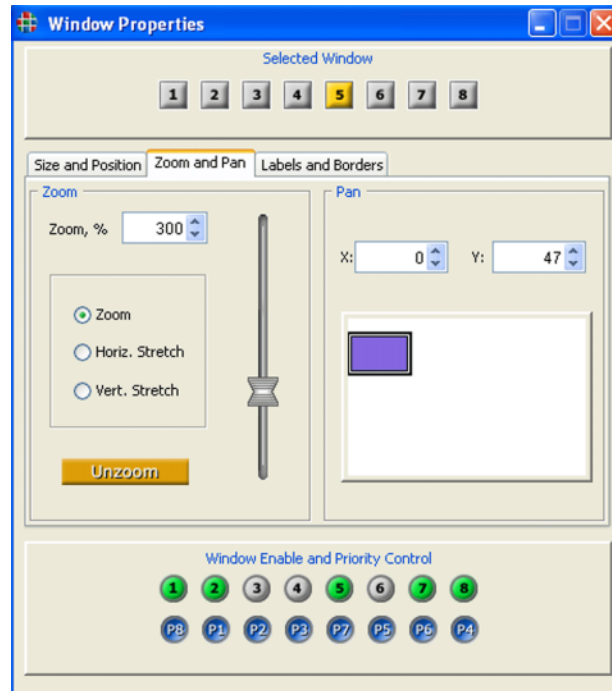

Figure 3-8. WCP Zoom and Pan page
- Click on the **Zoom and Pan** tab on the **Windows Properties** page (Figure 3-8).
- Click on the **Zoom and Pan** tab on the **Windows Properties** page (Figure 3-8). Use the **Selected Window** area to select the window that you wish to use by clicking on the **Selected Window** button.